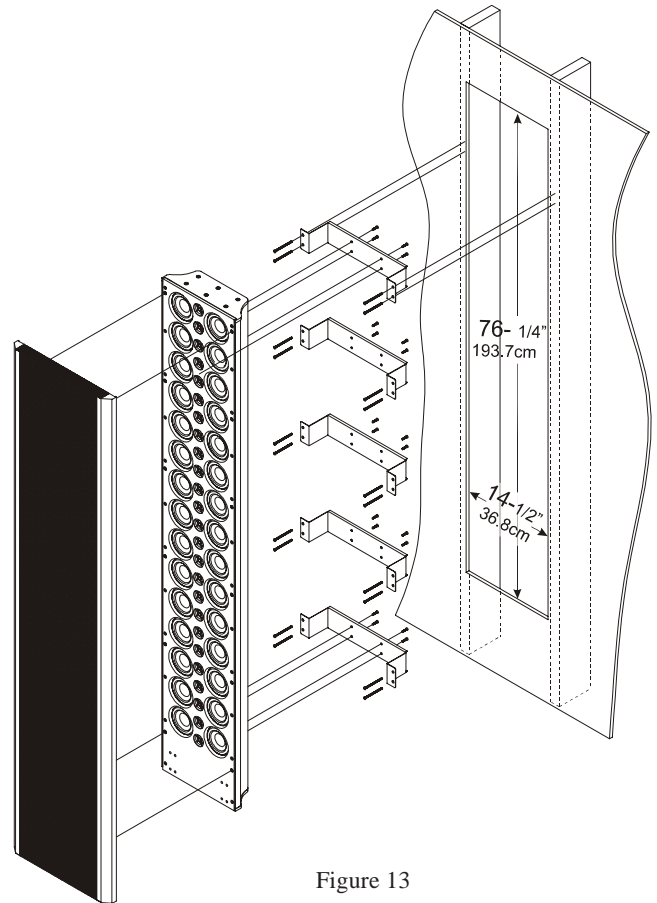

Figure 13
30. Secure the Loudspeaker Column Brackets through the wall finish material and into the studs, using the supplied 10 x 2-1/2 inch screws. Refer to figure 13.